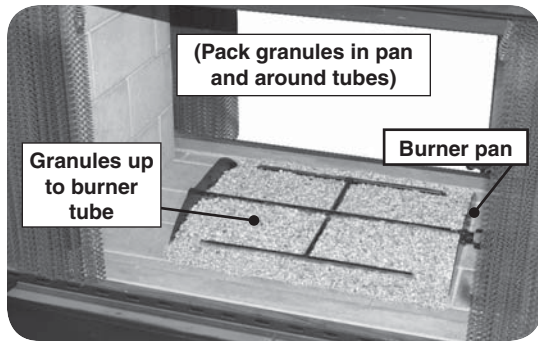

Fig. 15-1
1. Pour the granules into the pan until they just cover the burner tubes. Then pack the granules in the pan and around the burner tubes. Add additional granules as needed to end with the granules **level** with the top of the burner tubes. Slope the granules in the front portions of the pan. See Fig. 15-1 and Fig. 15-3.